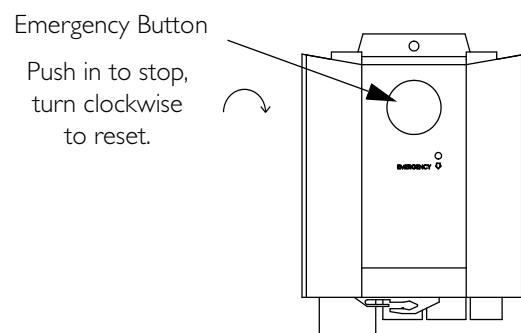

FIGURE 3.1 Operating the Patient Lift
- Refer to Detail “A” of Figure 3.1.